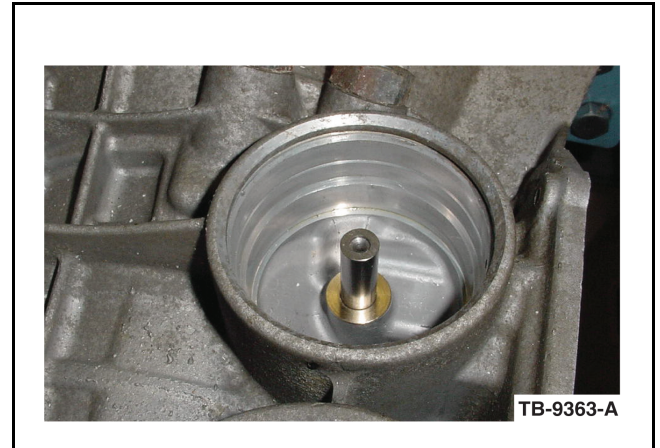

Figure 8 - Article 09-12-12
9. Insert the provided sizing pin into the bore. It maybe necessary to start the pin in the bushing with a rubber mallet. Once the pin is inside the bushing, use a punch to drive the pin all the way through the bushing. Repeat as necessary. (Figure 8)